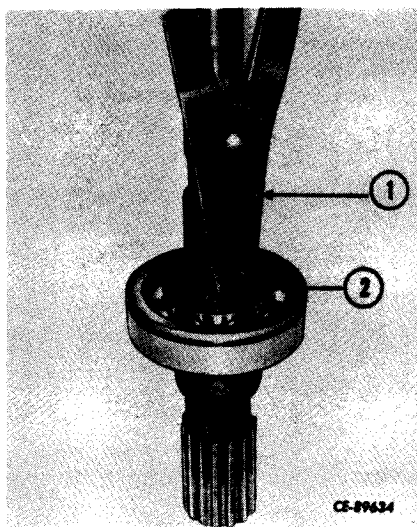

Figure 11-14
Using a snap ring pliers (1, Fig. 11-14) remove the snap ring (2).
Using a snap ring pliers (1, Fig. 11-14), install the snap ring (2) on the shaft.